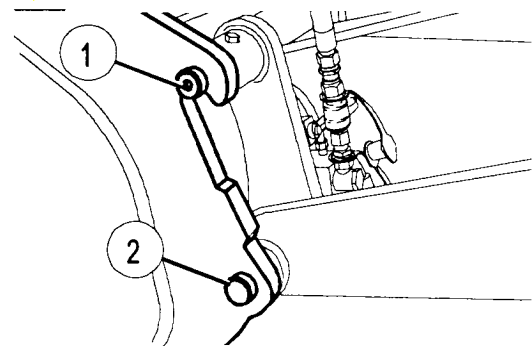

FIG. 4
Drive the machine to the work unit until the quick change unit (1) is below the pickup hooks of the work unit. Then lift the boom until work unit catches the quick change unit (Fig.4)
The interlocking pins (2) will then be visible (FIG. 4)